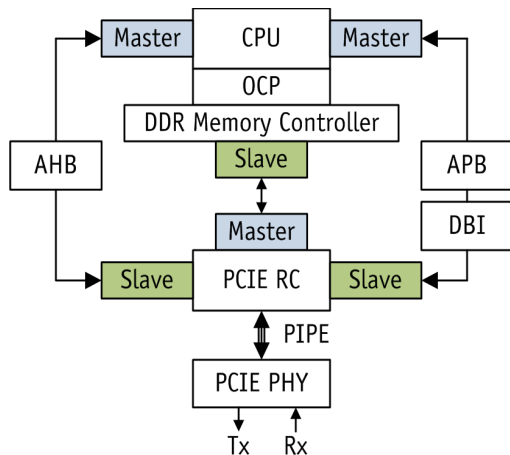

Figure 2-3. System Level Overview
The PCI Express device used in the AR7242 is a root complex (RC) supporting a single-lane PCIE link at 2.5 Gbps. See Figure 2-3.